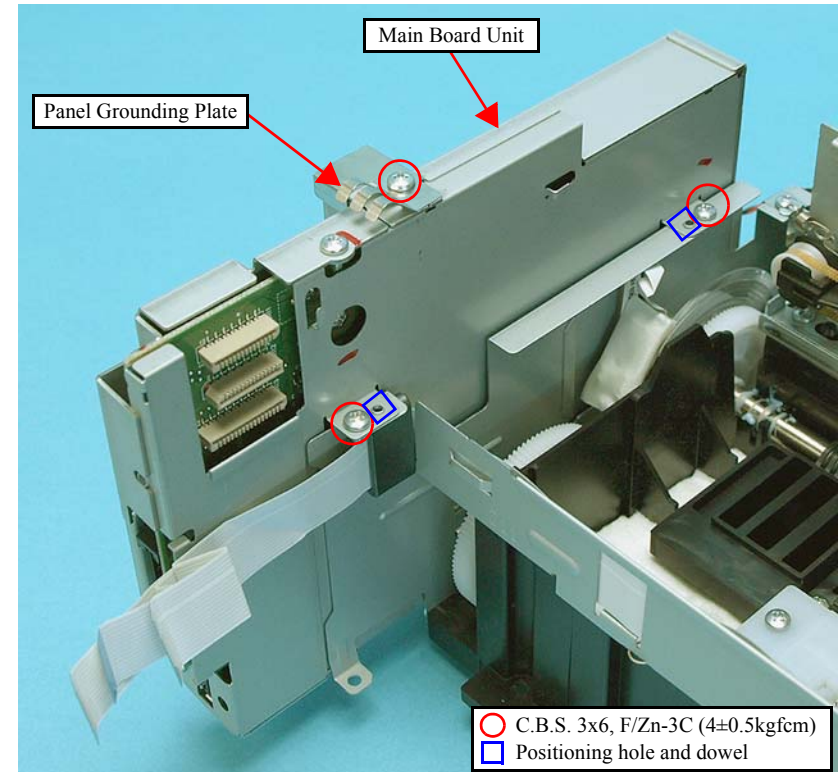

Figure 4-19. Removing the Main Board Unit (2)
- When reassembling the Main Board Unit, make sure to align the positioning holes (x2) to the dowels (x2) of the Left Frame as shown in Figure 4-19.
- Tighten the screws in the order given in Figure 4-19.